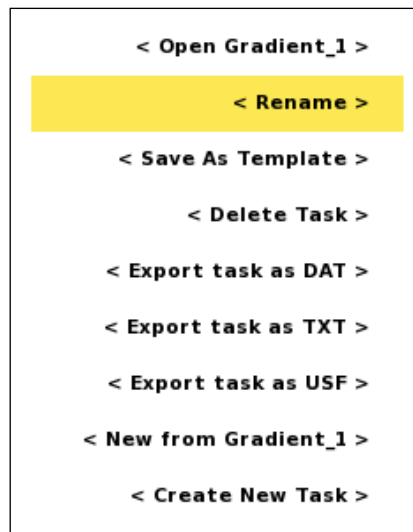

Figure 24 Task Option menu with the Rename item highlighted
- Move the highlight to <Rename> (Figure 24)